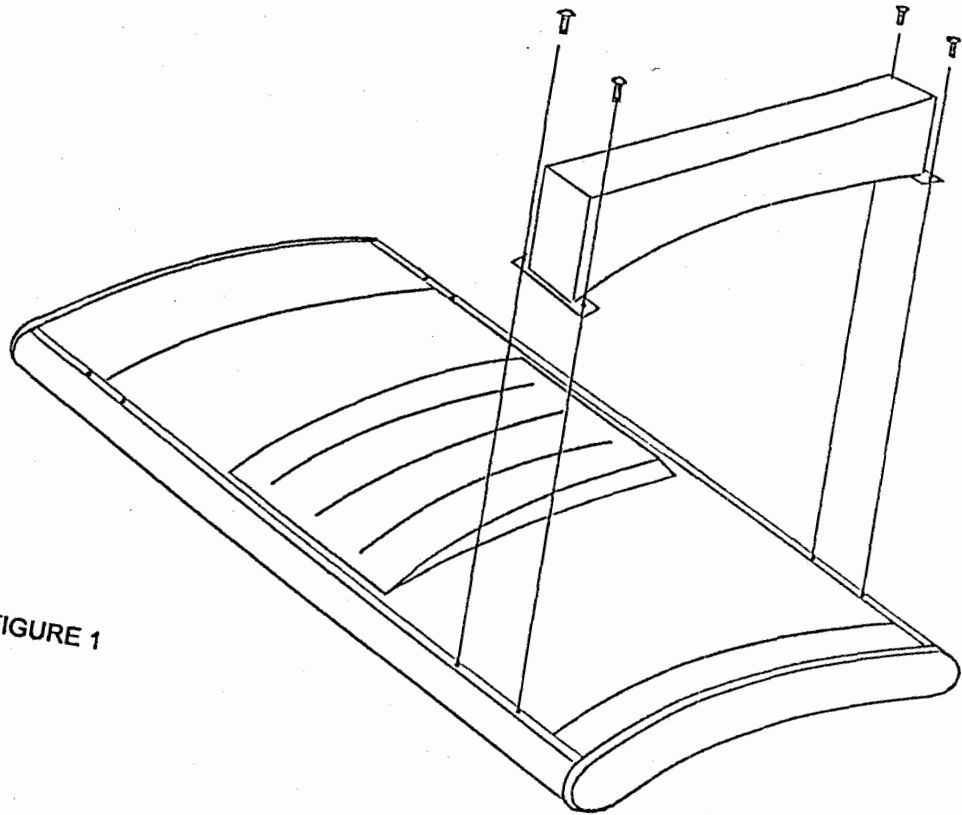

FIGURE 1
Carefully remove sunbed unit from the carton marked "sunbed", and lay it on carpet or similar surface (to prevent scratching) with the acrylic side down (see figure 1).
Locate the eight (8) machine screws and lock washers provided and attach the legs as shown in figure 1. When the legs are securely fastened, turn the unit over so that the acrylic side is up and the unit is standing on its legs.